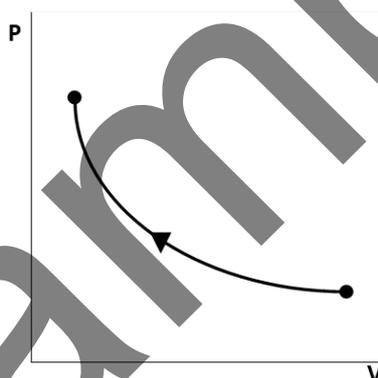

Fig.2.1: A compressor's effect on the P-V diagram
**Compressor:** Compressors will compress the working fluid to increase the pressures, which causes an increase in temperature, it also allows increases the effectiveness of heating in the boiler, as there will be less empty space. Compressors are assumed to be an adiabatic, or isentropic compression, its effect on a P-V diagram will look like Fig.2.1.
**Turbine:** Turbines are the work output of a system, and are used to power the shaft that drives the generator, and typically the compressor's shaft. Turbines can be assumed to be an adiabatic, or isentropic expansion, its effect on a P-V diagram will be the reverse of Fig.2.1.